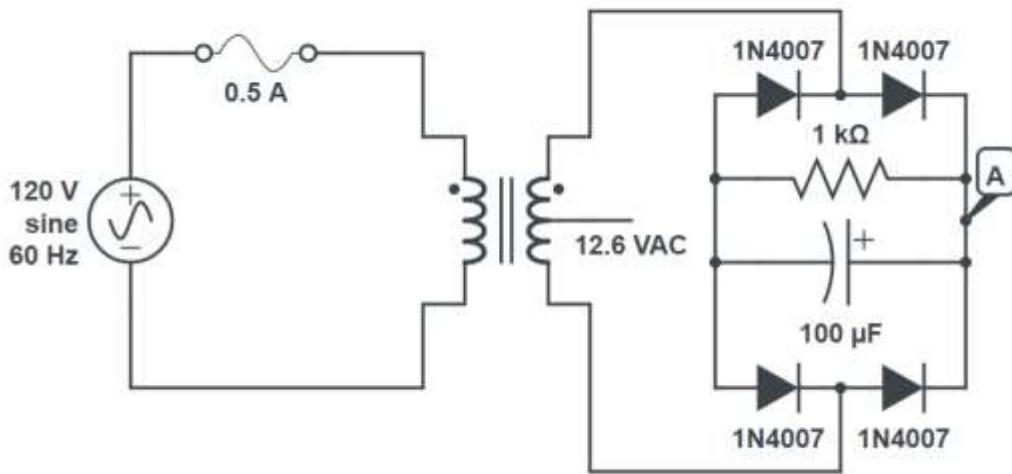

FIGURE 3-2: Capacitor Input Rectifier Filter Circuit
4. Wire the full-wave bridge rectifier circuit with the capacitor input filter as shown in Figure 3-2. Pay close attention to the polarities of the 1N4007 diodes. You should also be very careful to observe the polarity of the 100 μ F filter capacitor.